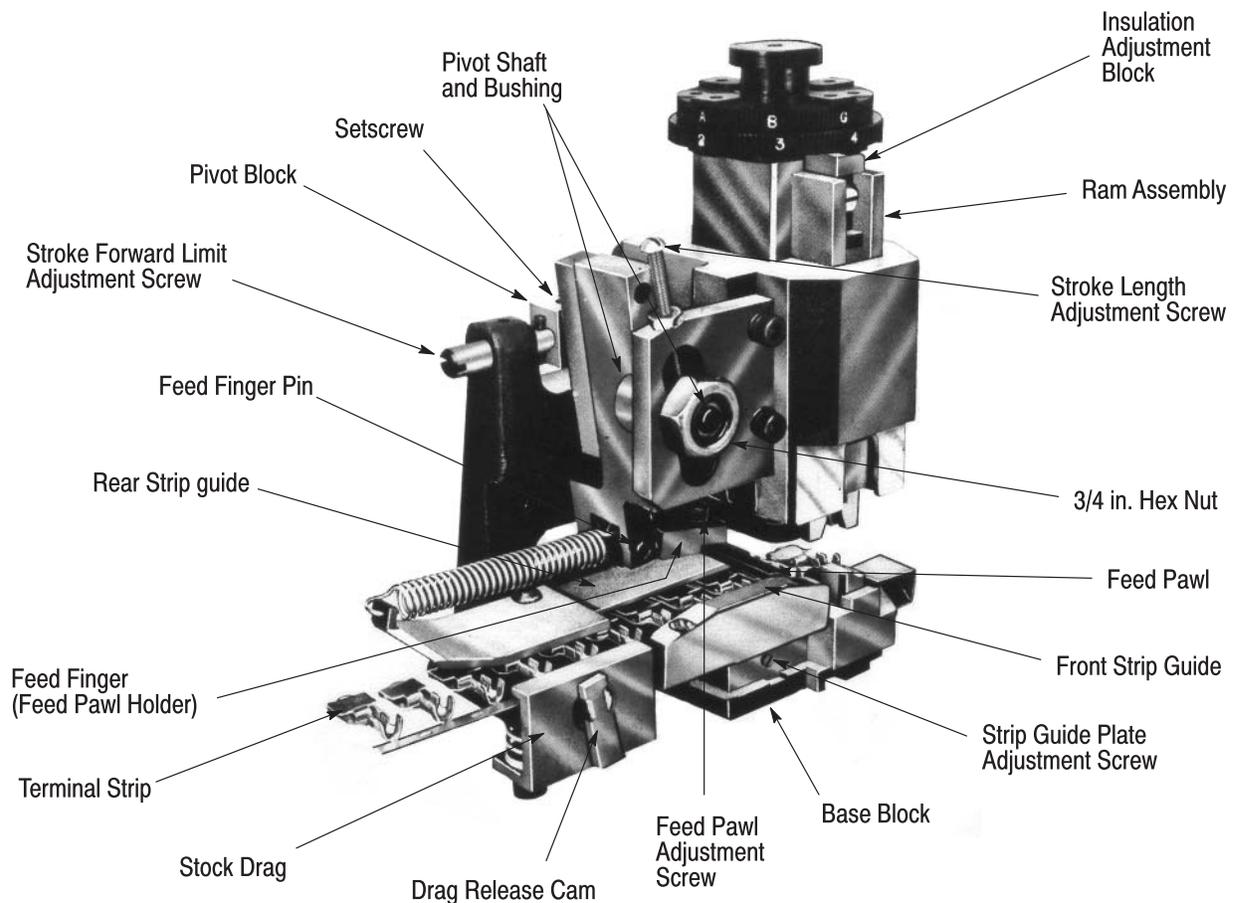

Figure 2
7. Loosen slightly the 3/4 in. hex nut, on side of applicator, to permit movement of pivot shaft in slot (refer to Figure 2).